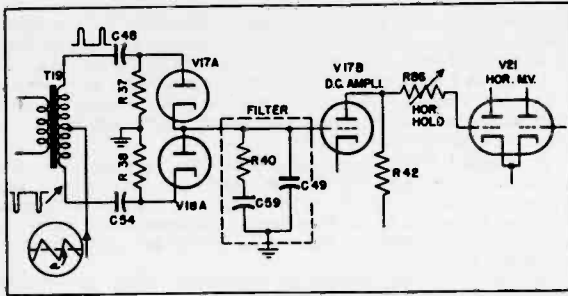

Fig. 6. Hor. Multivibrator and Sync
5. HORIZONTAL MULTIVIBRATOR AND AFC SYNC (SEE FIGURE 6)—The horizontal sawtooth oscillator makes use of a Type 6SN7GT tube, V21, in a conventional cathode-coupled multivibrator circuit. Instead of its frequency being controlled directly by the horizontal sync pulses, it is controlled by a d-c voltage on its controlling grid, the d-c voltage being a resultant of the phase error between the incoming sync signal and a sawtooth voltage derived from the output of the horizontal sweep amplifier. This voltage is called an automatic frequency control (AFC) voltage.
The AFC voltage is developed by the diode-connected triodes V17A and V18A by mixing the horizontal sync pulses at the secondary of transformer T19 with a sawtooth voltage waveform derived at the output of the sweep amplifier tube, V22. When the sync pulse occurs at the time "a" shown in the sawtooth waveform-drawing in Figure 6, no voltage will be developed at the output of the filter. However, if the multivibrator runs faster or slower so that the pulse falls at a point other than at "a," a